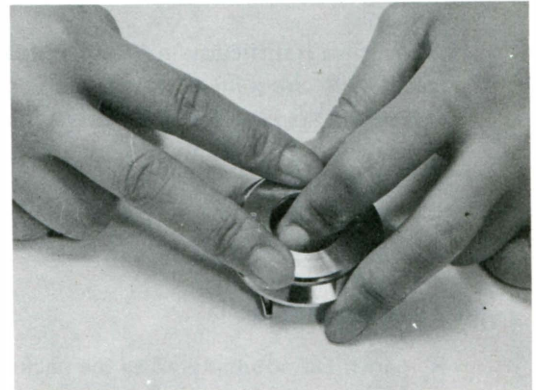

Fig. 9
- c. Push the upper endpiece down (Fig. 9).